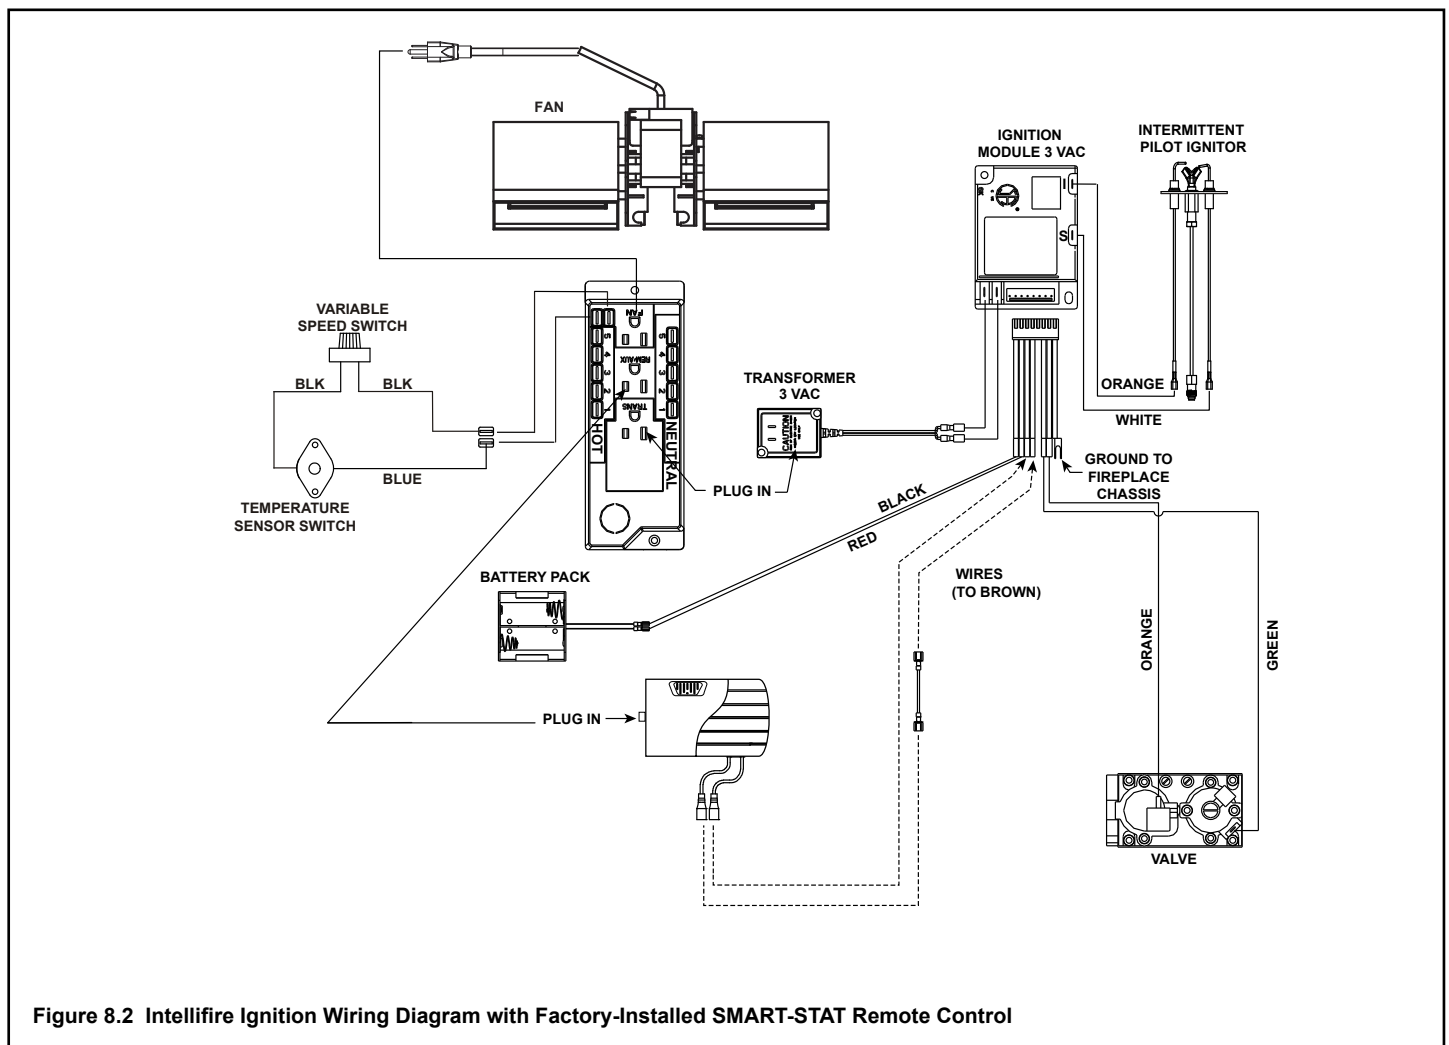

Figure 8.2 Intellifire Ignition Wiring Diagram with Factory-Installed SMART-STAT Remote Control
- Refer to Figure 8.2, Intellifire Pilot Ignition (IPI) Wiring Diagram.